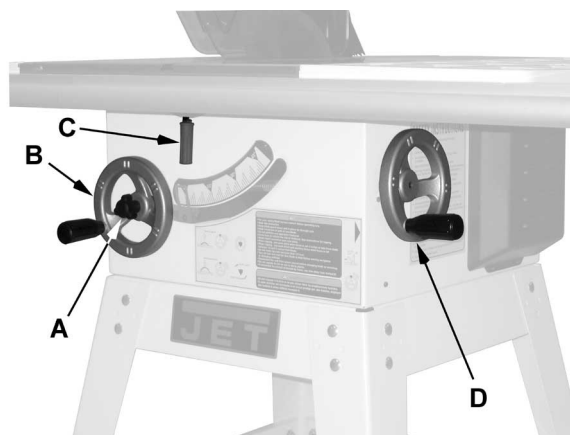

Figure 22
Referring to Figure 22:
3. Set the blade at 90° to the table by turning the blade tilting handwheel counterclockwise (D, Fig. 22) as far as it will go. Do not force beyond stop.
8. Set the blade at 45° to the table by turning the blade tilting handwheel clockwise (D, Fig. 22) as far as it will go. Do not force beyond stop.